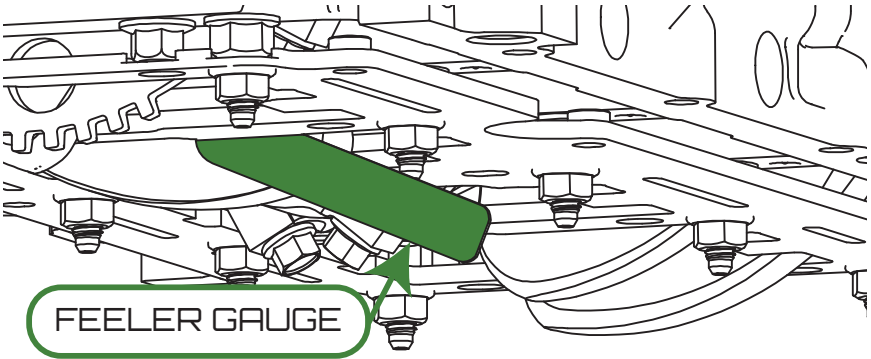

Figure 8 - Inspecting Clearance with a Feeler Gauge
7. Use a feeler gauge set, shown in Figure 8, to carefully measure the gap between the scraper and the rotating assembly in-as-many positions as possible. Please be thorough!